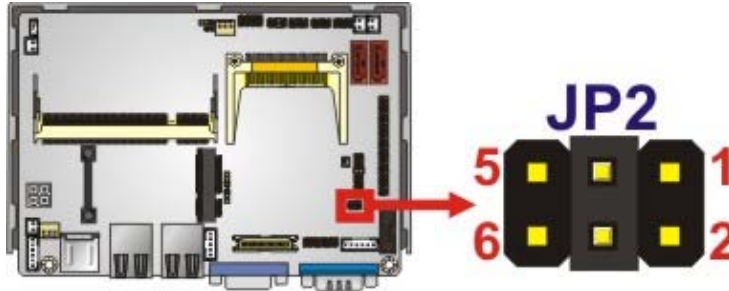

Figure 4-6: COM 1 Pin 9 Setting Jumper Location
- Jumper Location:** See Figure 4-6